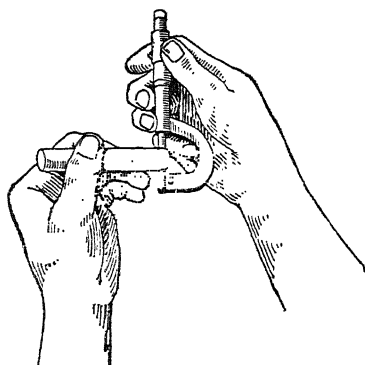

FIG. 65.
**79. Holding a Micrometer.**—Figure 65 indicates clearly the proper way to hold the micrometer in order to accurately